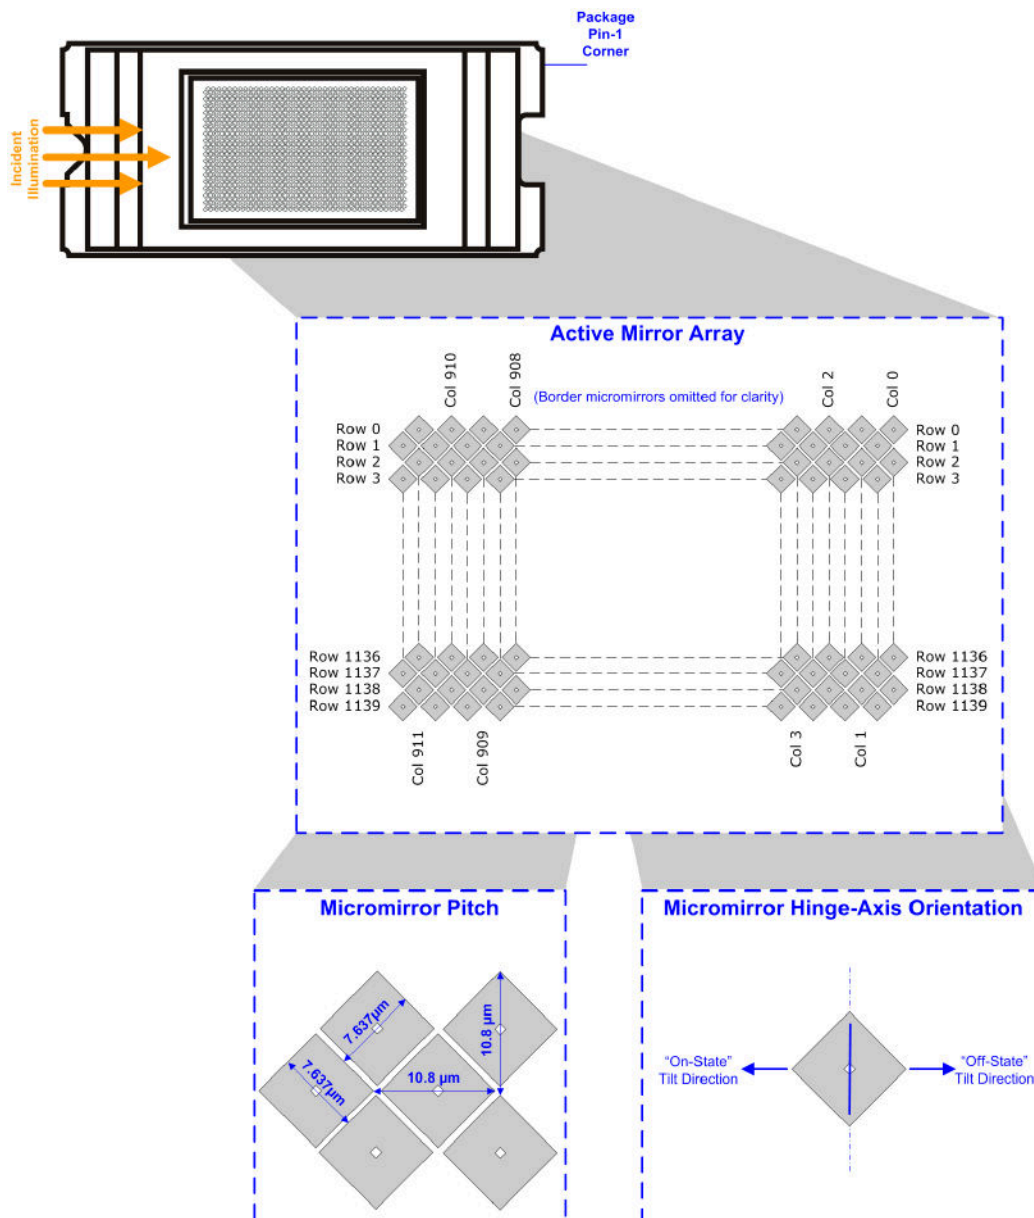
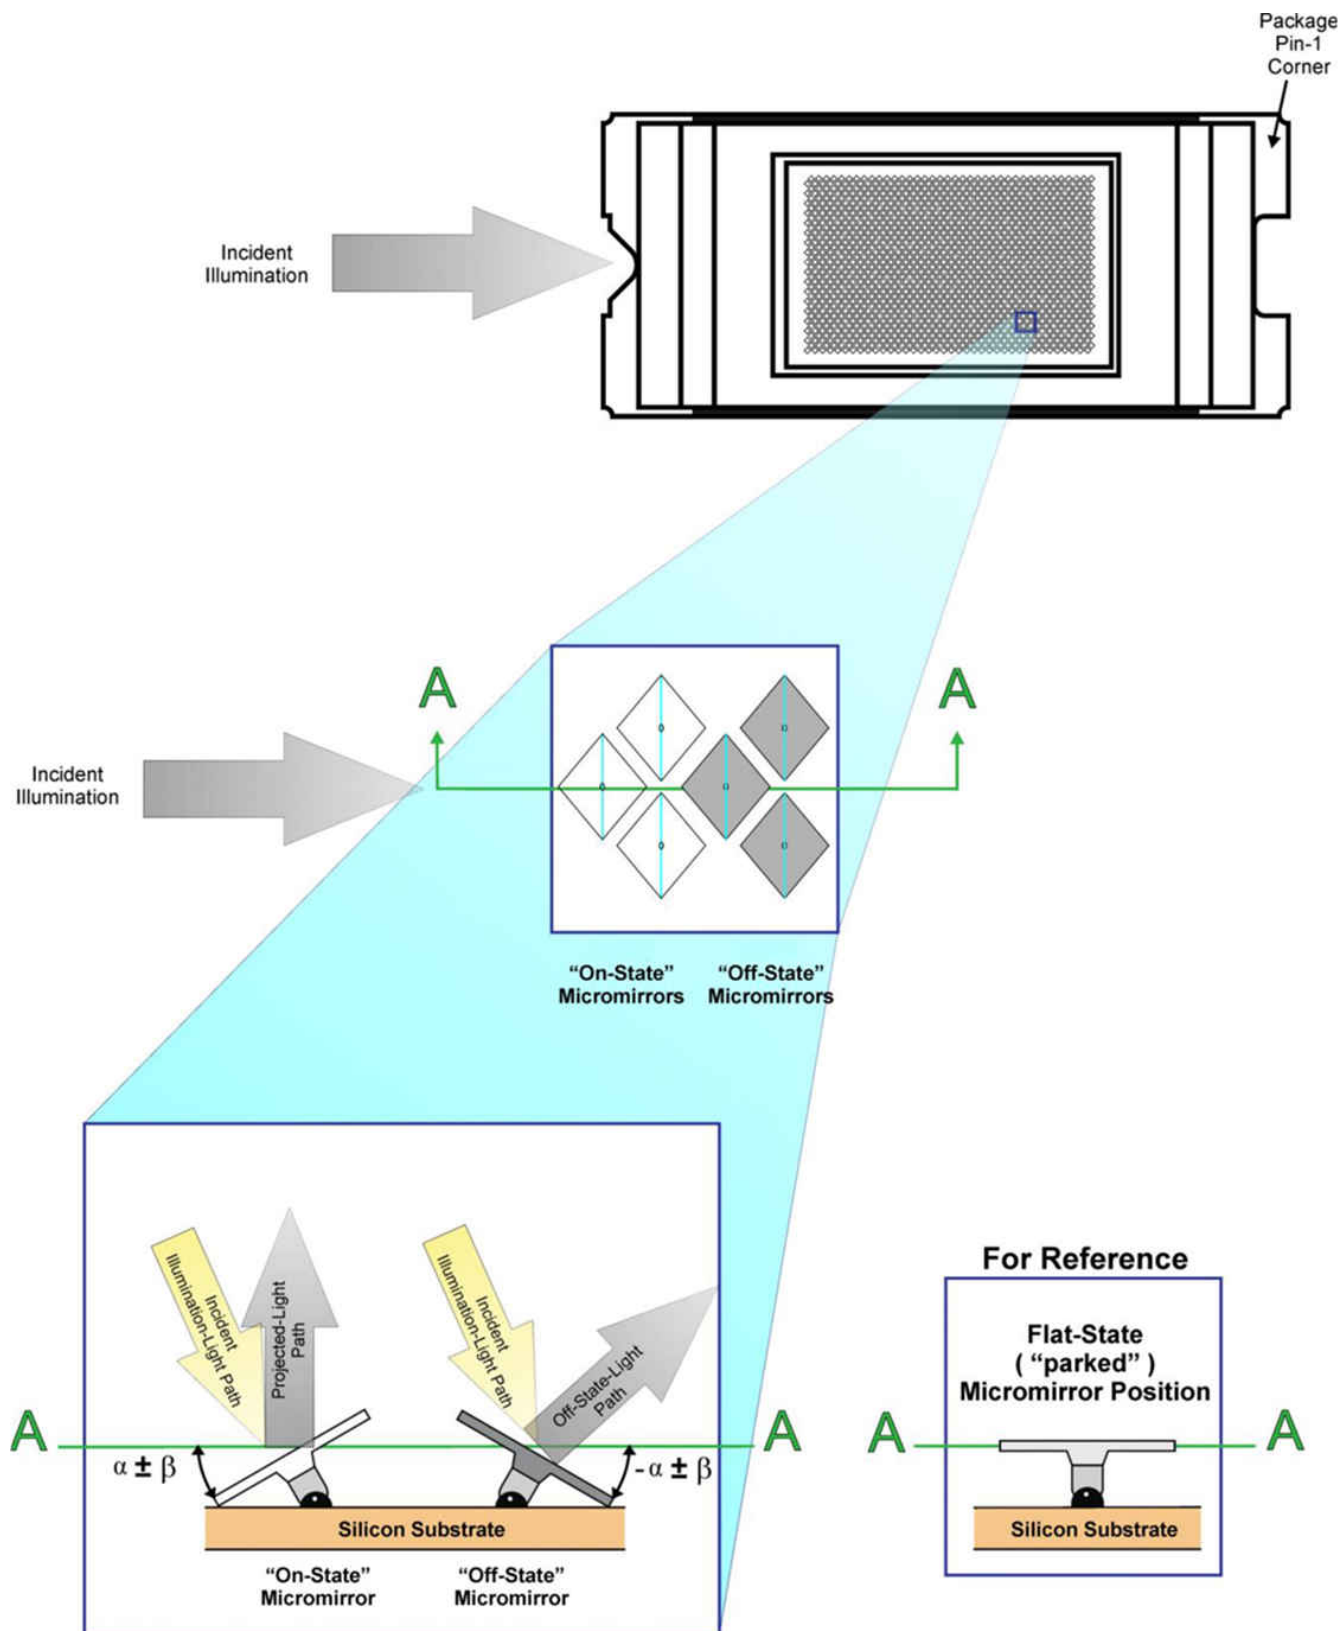

Figure 8-1. Micromirror Array, Pitch, and Hinge-Axis Orientation
Figure 8-2. Micromirror Landed Positions and Light Paths
- (1) The mirrors that form the array border are hard-wired to tilt in the -12° ("Off") direction once power is applied to the DMD (see Figure 8-1 and Figure 8-2).
- (2) See Figure 8-1.
- (1) Measured relative to the plane formed by the overall micromirror array.
- (2) Micromirror crossover time is primarily a function of the natural response time of the micromirrors.
- (3) *Parking* the micromirror array returns all of the micromirrors to a relatively flat (0°) state (as measured relative to the plane formed by the overall micromirror array).
- (4) When the micromirror array is *parked*, the tilt angle of each individual micromirror is uncontrolled.
- (5) Additional variation exists between the micromirror array and the package datums.
- (6) When the micromirror array is *landed*, the tilt angle of each individual micromirror is dictated by the binary contents of the CMOS memory cell associated with each individual micromirror. A binary value of 1 results in a micromirror *landing* in an nominal angular position of +12°. A binary value of 0 results in a micromirror *landing* in an nominal angular position of –12°.
- (7) Represents the *landed* tilt angle variation relative to the nominal *landed* tilt angle
- (8) Represents the variation that can occur between any two individual micromirrors, located on the same device or located on different devices.
- (9) For some applications, it is critical to account for the micromirror tilt angle variation in the overall system optical design. With some system optical designs, the micromirror tilt angle variation within a device may result in perceivable non-uniformities in the light field reflected from the micromirror array. With some system optical designs, the micromirror tilt angle variation between devices may result in colorimetry variations or system contrast variations.
- (10) See Figure 8-2.
- (11) Performance as measured at the start of life.
- (12) Measured relative to the package datums B and C, shown in the Package Mechanical Data section in Section 13.
- (13) The nominal DMD total optical efficiency results from the following four components:
- (14) The DMD diffraction efficiency and total optical efficiency observed in a specific application depends on numerous application-specific design variables, such as:
Optically, the DLP4500 device consists of 1039680 highly reflective, digitally switchable, micrometer-sized mirrors (micromirrors) organized in a two-dimensional array. The micromirror array consists of 912 micromirror columns by 1140 micromirror rows in diamond pixel configuration (Figure 8-1). Due to the diamond pixel configuration, the columns of each odd row are offset by half a pixel from the columns of the even row.
Each aluminum micromirror is approximately 7.6 microns in size and arranged in row and columns as shown in Figure 8-1. Due to the diamond pixel array of the DMD, the pixel data does not appear on the DMD exactly as it would in an orthogonal pixel arrangement. Pixel arrangement and numbering for the DLP4500 is shown in Figure 8-1.
Each micromirror is switchable between two discrete angular positions: -12° and 12° . The angular positions α and β are measured relative to a 0° flat reference when the mirrors are parked in their inactive state, parallel to the array plane (see Figure 8-2). The parked position is not a latched position. Individual micromirror angular positions are relatively flat, but do vary. The tilt direction is perpendicular to the hinge-axis. The on-state landed position is directed toward the left side of the package (see Figure 8-2).